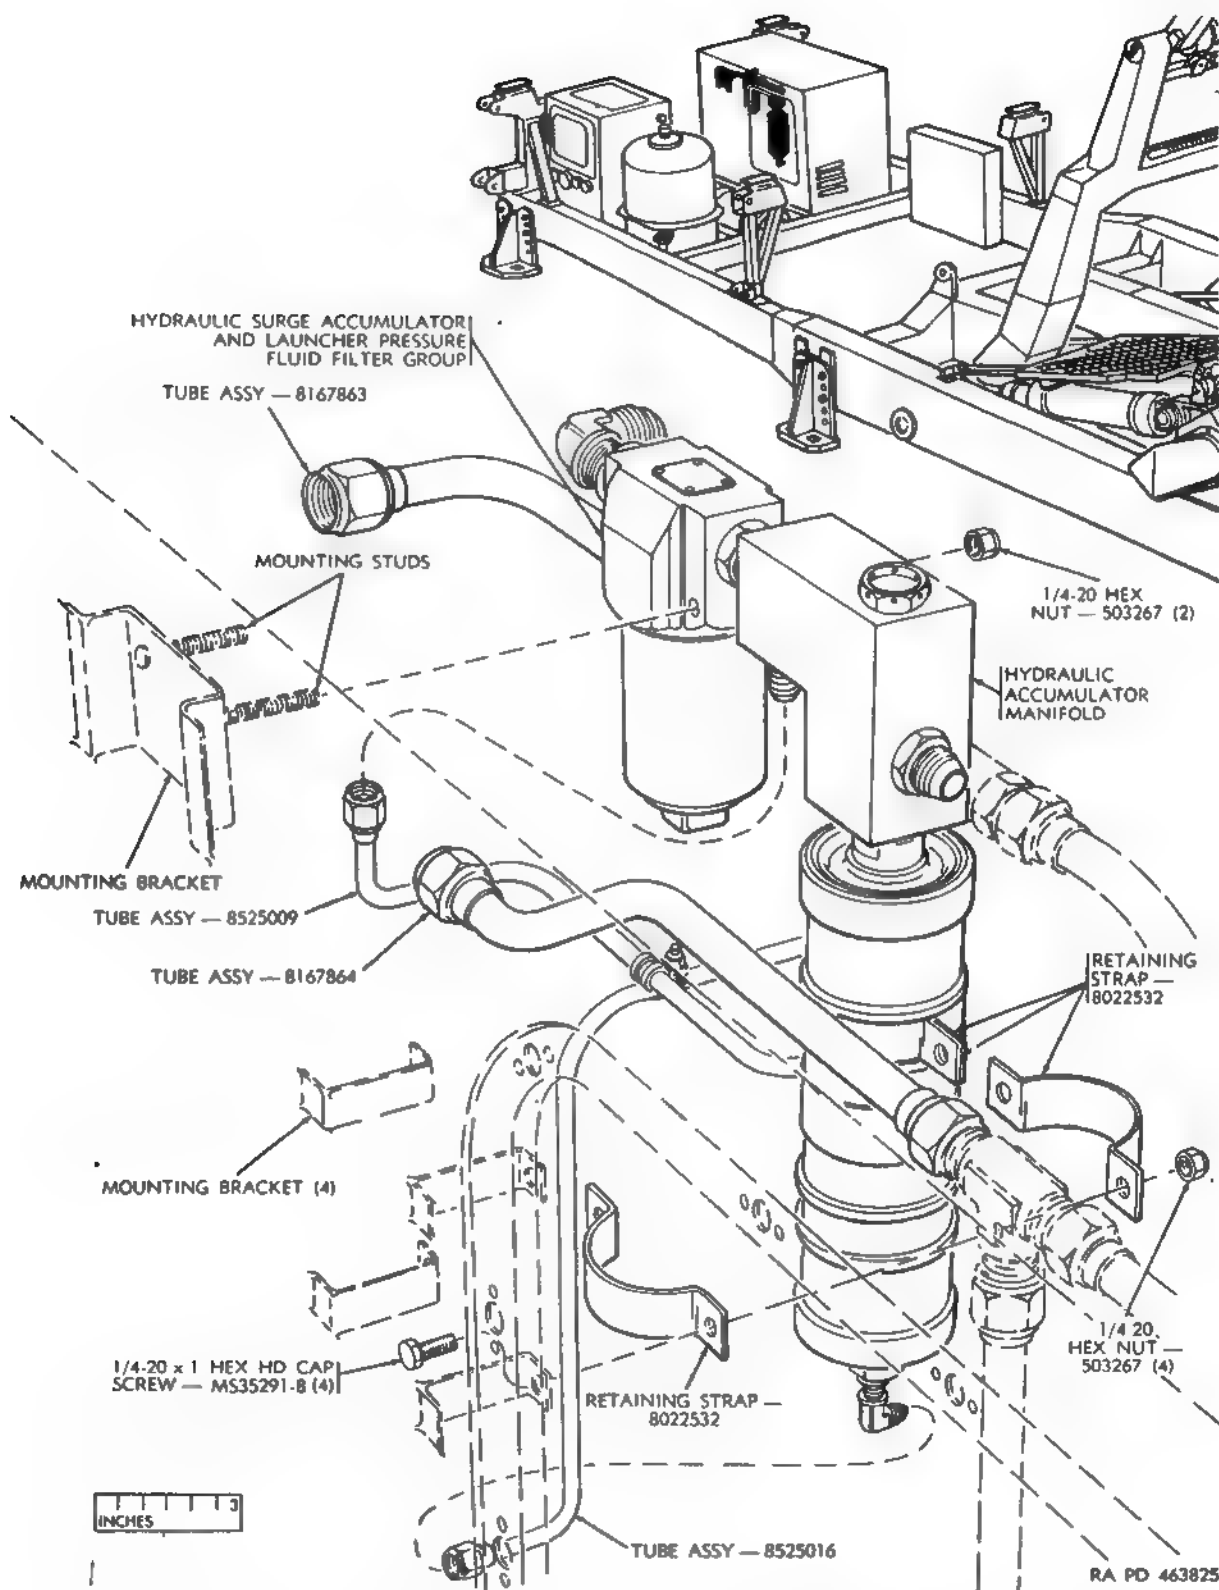

Figure 143. Hydraulic surge accumulator and launcher pressure fluid filter group — removal and installation.
- (f) Disconnect the tube assemblies (fig. 143) attached to the hydraulic surge accumulator and launcher pressure fluid filter group.
- (a) Install retaining straps (fig. 143) and accumulator and launcher pressure fluid filter group.